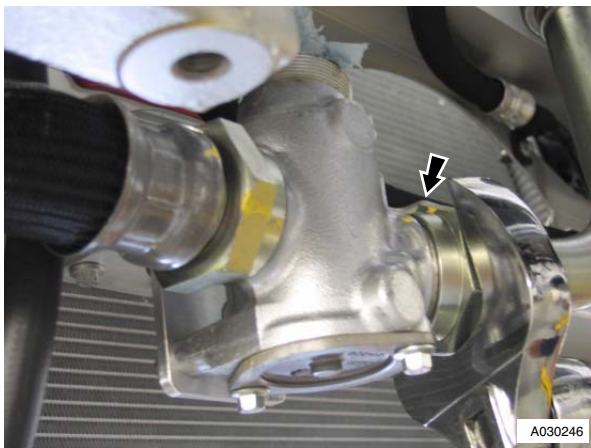

Figure 2
- Remove pipe from oil thermostat (position container to catch oil) (refer to Figure 2).